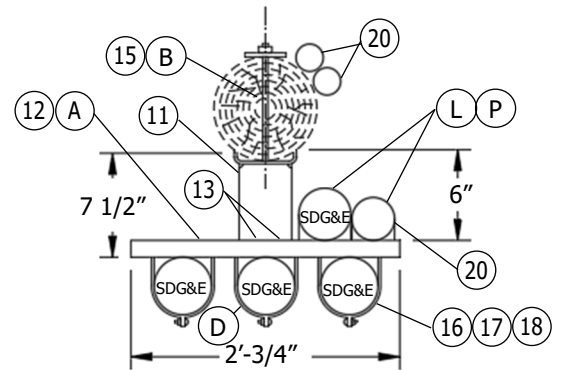

FIGURE 3
2. ADDING A SINGLE RISER TO AN EXISTING RISER POLE. AN EXISTING SINGLE SDG&E RISER WOULD REMAIN ON THE POLE UNLESS IT IS CREATING A G.O. 95 INFRACTION. IF AN INFRACTION EXISTS, MOVE THE EXISTING RISER TO THE LADDER ARM BRACKET ALONG WITH THE NEW RISER SHOWN IN FIGURE 3.
- (H) USE FIGURE 3 WHEN INSTALLING MORE THAN ONE RISER.